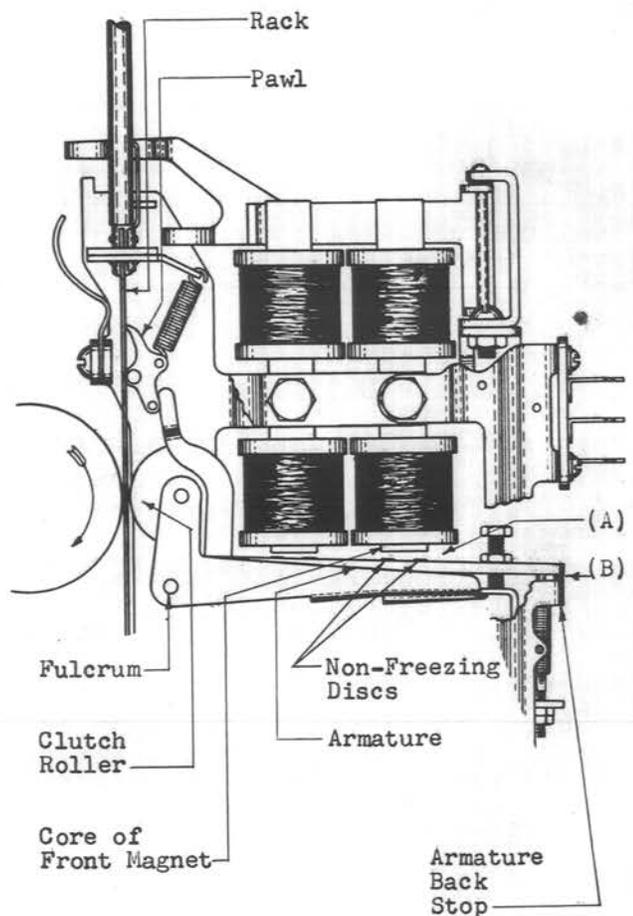

Fig. 10 - Downdrive Armature in Normal Position (Earlier Type Pawl)
2.15 Unoperated Core Gap - Fig. 10 (A): With the armature in its normal position, the gap between the top of the non-freezing disc on the armature farthest from the fulcrum and the core of the corresponding coil shall be
2.20 Pawl Engagement - Fig. 10 (B): The pawl shall engage the rack sufficiently to prevent the rack from slipping or dropping for any position the rack may assume when a .020" thickness gauge is placed between the back stop and armature. Use the No. 80B gauge.